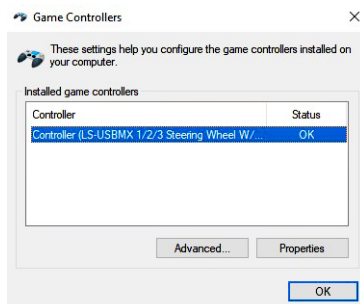

Fig. 8
- Go to «control panel» menu, then click on «devices and printers» icon, in the window that opens, select «LS-USB-MX 1/2/3 Steering Wheel W/Vibration», shortcut, right-click on «Game controllers settings» (see Fig. 8).